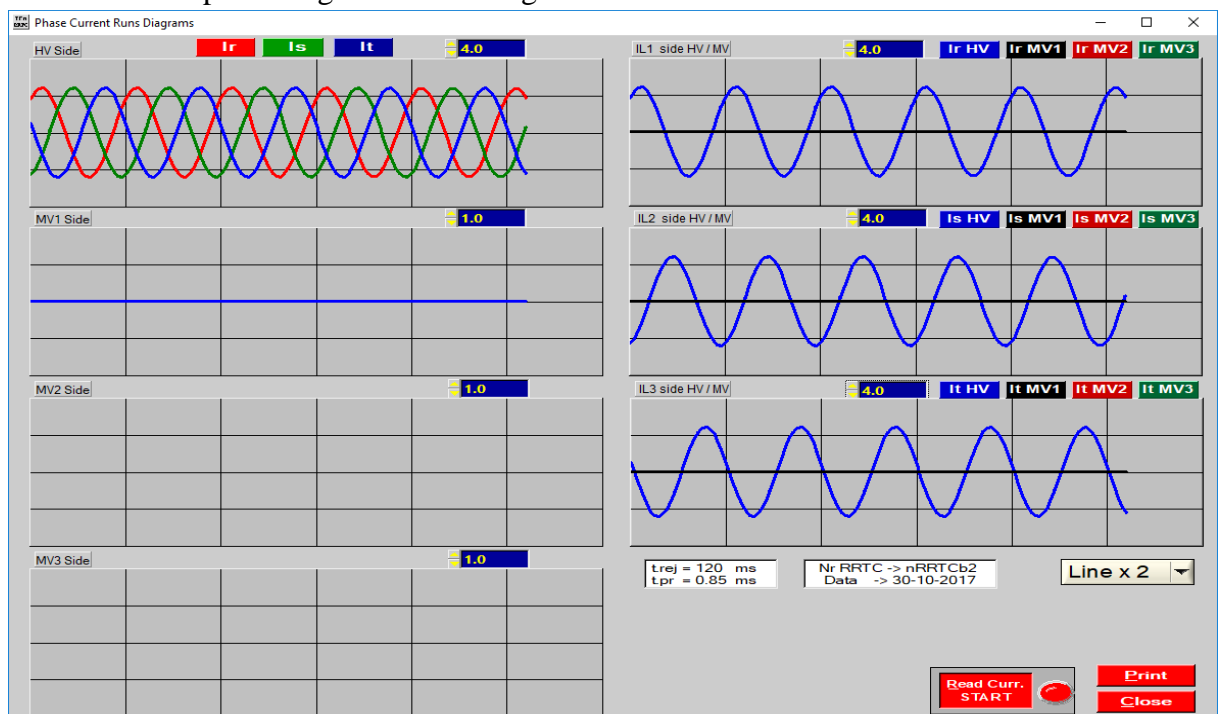

Fig. 6. Measurements 2 oscilloscope subwindow
- Oscyloscope – the left hand side subwindows present L1, L2 and L3 currents from the HV side (subwindow on the top), L1, L2 and L3 currents from the MV1 side (subwindow in the middle) and L1, L2 and L3 currents from the MV2 side (subwindow on the bottom). The right hand side subwindows present the HV, MV1 and MV2 sides currents in each phase. Example of the oscyloscope screen is showed on the Fig. 6. For each window signals amplification factor may be set in the range from 0,5 to 20. In the bottom right part of the oscyloscope screen, three buttons are located: “Currents read out START/STOP”, “Print”, “Exit”. Pushing the “Currents read out START/STOP” button starts or stop the current signals readout from the relay (stopping of the read out occurs after reading out complet periode of the signals). The “Print” button allows printing of the currently presented signals.